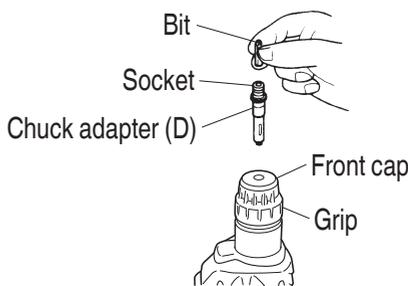

Fig. 10
4. When driving machine screws (Fig. 10)
5. When driving wood screws (Fig. 10 on page 33)